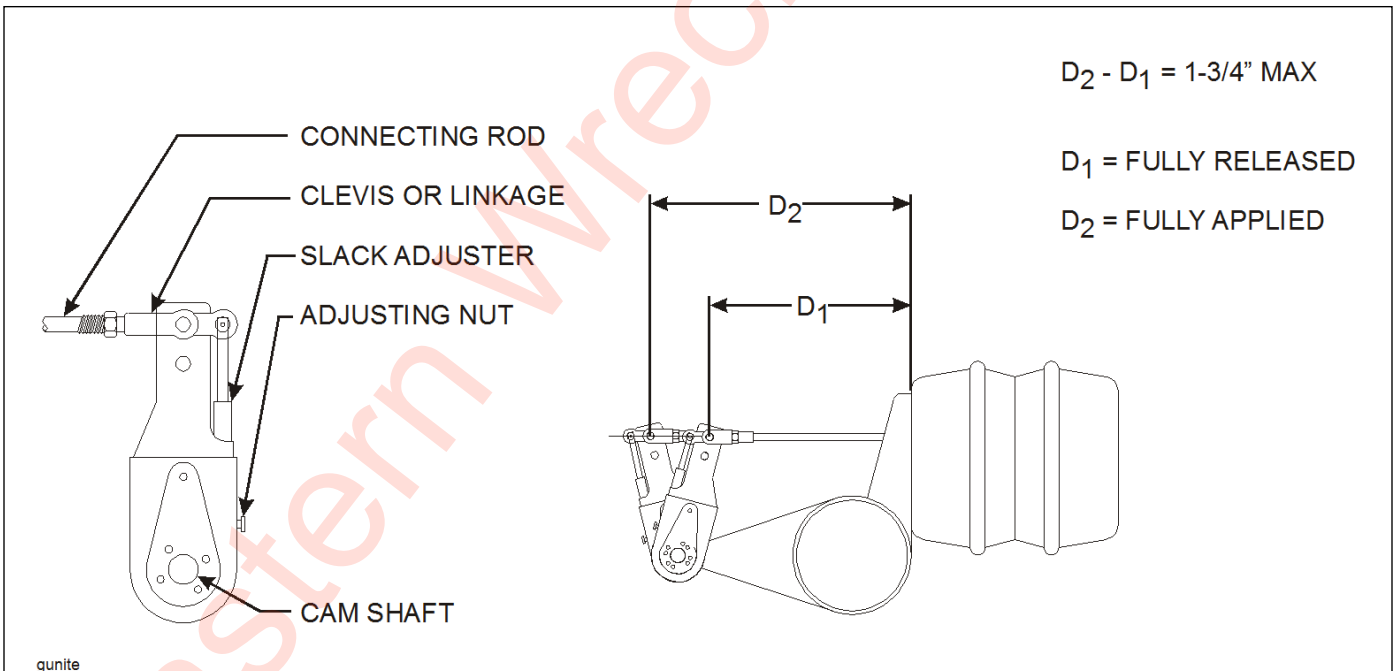

Figure 4-11: Checking Brake Adjustment
4. Remount the brake chamber on the axle brackets and reconnect the air service hoses and the slack adjuster connecting rod (**See Figure 4-11.**)
2. Measure the distance (D1) from the face of the brake air chamber to the center of the slack adjuster linkage pin **(See Figure 4-11.)**
7. Place a 9/16" box end or socket wrench on the slack adjuster adjusting nut **(See Figure 4-11)**, and push in on the locking sleeve.